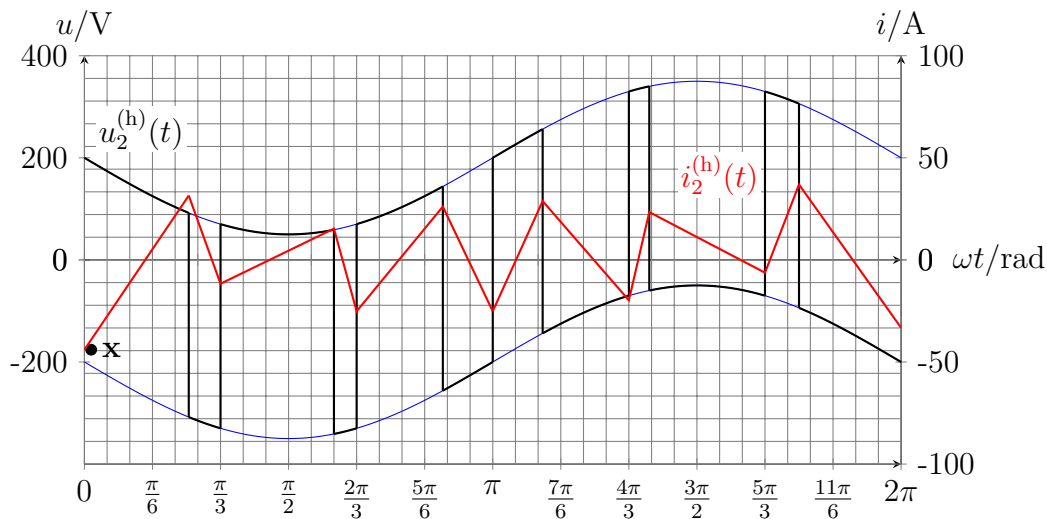

Figure 7.1.4: Harmonics of the output voltage and current.
7.1.3 In Fig. 7.1.4, draw the voltage harmonics $u_2^{(h)}(t)$. Try to sketch, approximately, the current harmonics $i_2^{(h)}(t)$ by counting the voltage time area squares. One square corresponds to a voltage time area of 25.9 mVs. The starting point is marked with **x**.